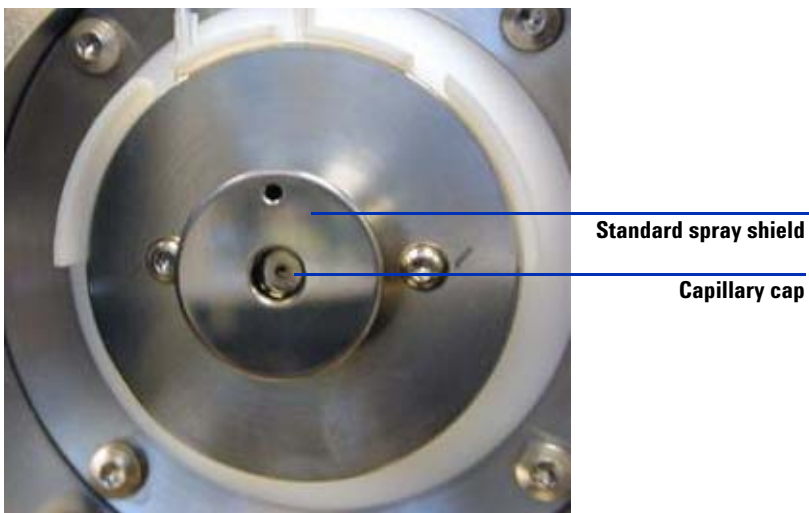

Figure 11 Standard spray shield and capillary cap for ESI or APCI
- 7 Unscrew and remove the spray shield. See Figure 11.